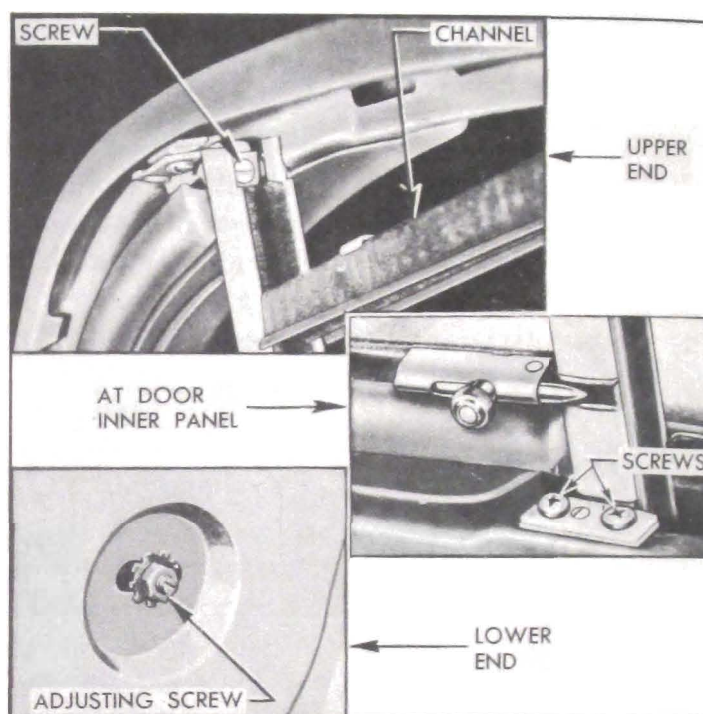

Figure 13-37—Window Division Channel Attachments
2. Remove the retaining screw holding upper end of division channel to door header and remove the two self-tapping screws attaching division channel to the top edge of door inner panel. See figure 13-37.